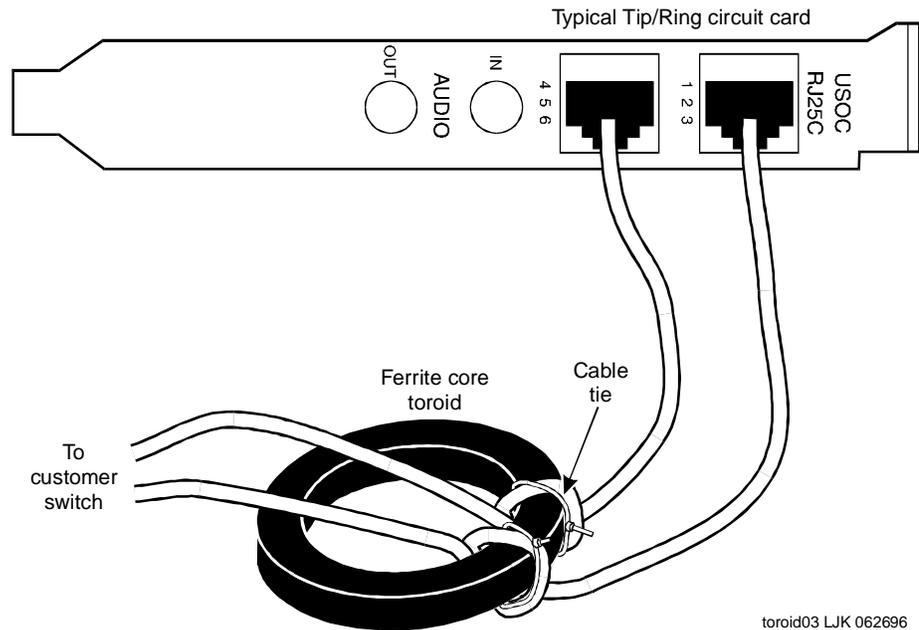

Figure 7-1. MAP/40 or 40s Ring Type Ferrite Core Toroid Installation
2. Carefully cut the cable ties which hold the Tip/Ring cables to the ring type ferrite core toroid (Figure 7-1).
2. Dress a Tip/Ring cable through the ring type ferrite core toroid (Figure 7-1).
3. Loop it around and dress it through the ring type ferrite core toroid a second time (Figure 7-1).
6. Secure all of the Tip/Ring cables to the ring type ferrite core toroid using a cable tie (Figure 7-1).